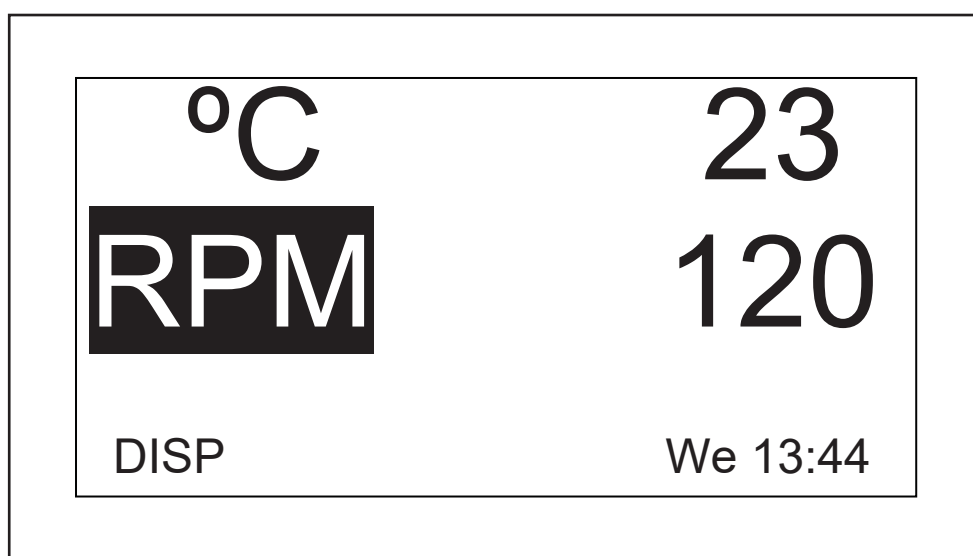

Fig. 9-1: Changing display parameter
1. Using the control knob, highlight the parameter that you wish to replace. For this example, we will replace RPM (see Fig. 9-1 on p. 50).